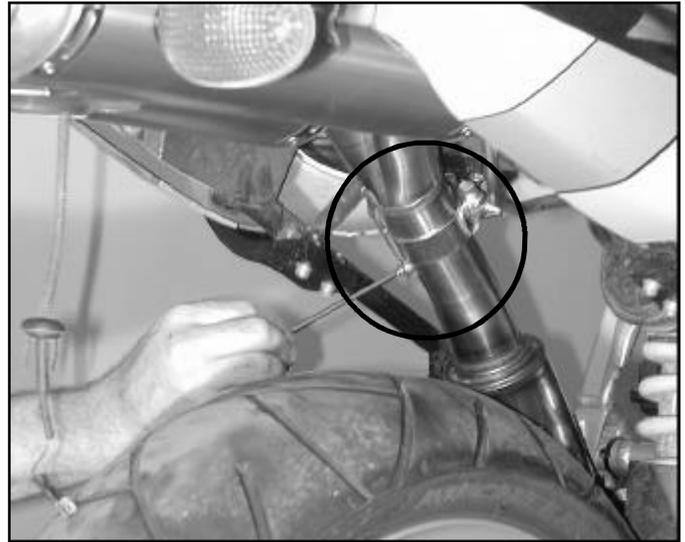

Figure 14
17. Firmly tighten the screw through the strap that connects the collector pipe to the muffler inlet pipe (hex key wrench, 4mm). Figure 14.